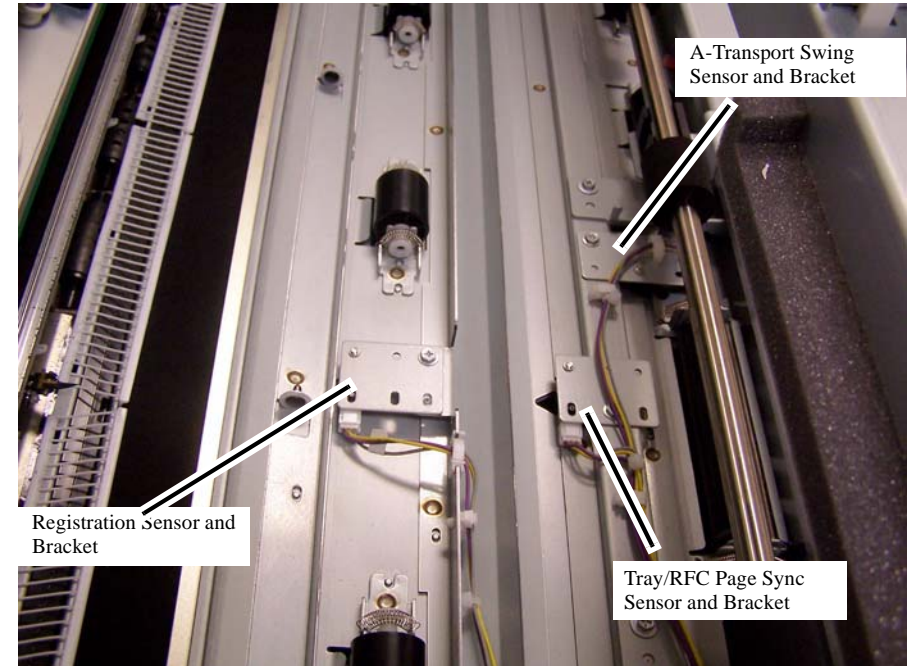

Figure 1 Sensor locations viewed from the left side of the machine
3. Remove the appropriate sensor from the Registration Upper Baffle (Figure 1).